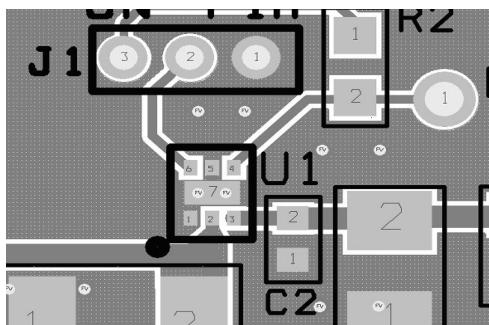

Figure 23: Proper layout of output and ground copper area
3. The V_{IN} , V_{OUT} and GND pins will dissipate most of the heat generated during a high load current condition. The layout suggested in Figure 23 provides each pin with adequate copper so that heat may be transferred as efficiently as possible out of the device. The low-power FLAGB and ON pin traces may be laid-out diagonally from the device to maximize the area available to the ground pad. Placing the input and output capacitors as close to the device as possible also contributes to heat dissipation, particularly during high load currents.